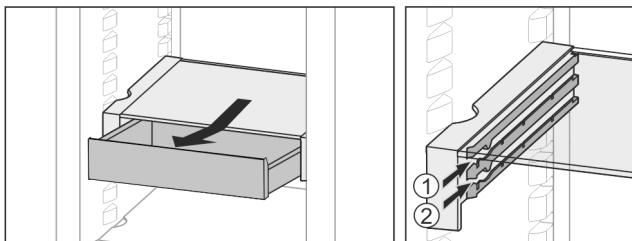

Fig. 29
- ▶ Slide in at any height *Fig. 29 (1)* or *Fig. 29 (2)*.